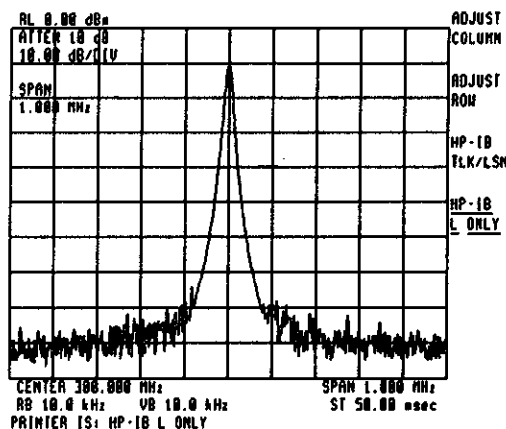

Fig. 2-46.
1. To select Listen Only press the softkey so that ◀HP-IB L ONLY▶ is underlined and "PRINTER IS HP-IB L ONLY" is shown in the lower left corner as in Figure 2-46.